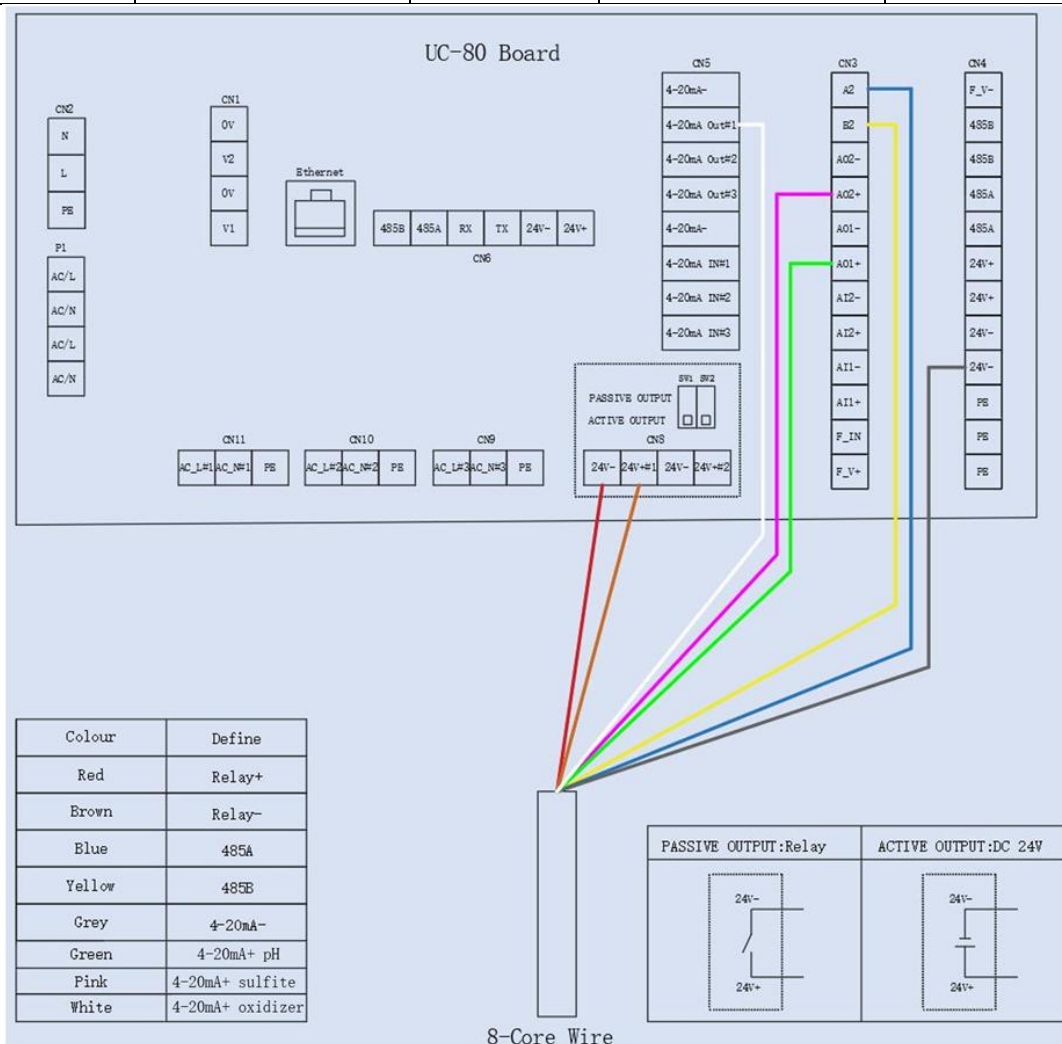

Figure. 6 - Pre-Landed Output Flying Lead Cable Wiring Diagram
The output pigtail offers a female adapter. This pigtail cable is designed to be connected to the loose flying lead cable with male adapter and open wires that is provided with the panel. This 8-pin output enables 3x 4-20mA signal passthrough, 1x RS-485 and 1x Relay (Default is Active Output 24Watt, can be changed to Passive Output) output to pass onto another device. The loose flying lead cable can be rapidly connected directly to the equipment in the field. Wire labeling and color code can be found in the table in the lower left corner of Figure 6 seen below, or rewired to the equipment according to the wiring diagram shown in Figure 6 **based on the serial # range provided below of heritage units that DO NOT contain the analog PID control relay.**
When Flow Control Mode (C) is selected, a user defined flow rate setpoint must be entered (Figures 6 & 7). The FS-100 will automatically control the regulating valve according to the preset flow rate with an internally calculated PID algorithm.